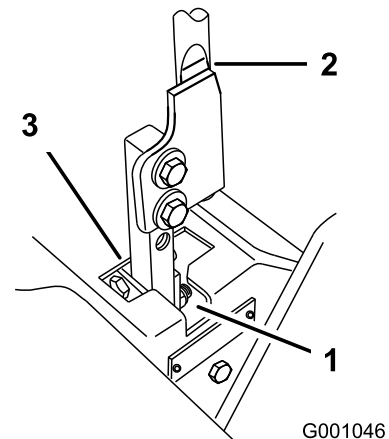

Figure 66
5. Move the lever to the neutral position but not locked (Figure 66).
6. Pull the lever back until the clevis pin (on arm below pivot shaft) contacts the end of the slot (just beginning to put pressure on the spring) (Figure 66).
7. Check where the control lever is relative to notch in console (Figure 66). It should be centered allowing lever to pivot outward to the NEUTRAL-LOCK position.